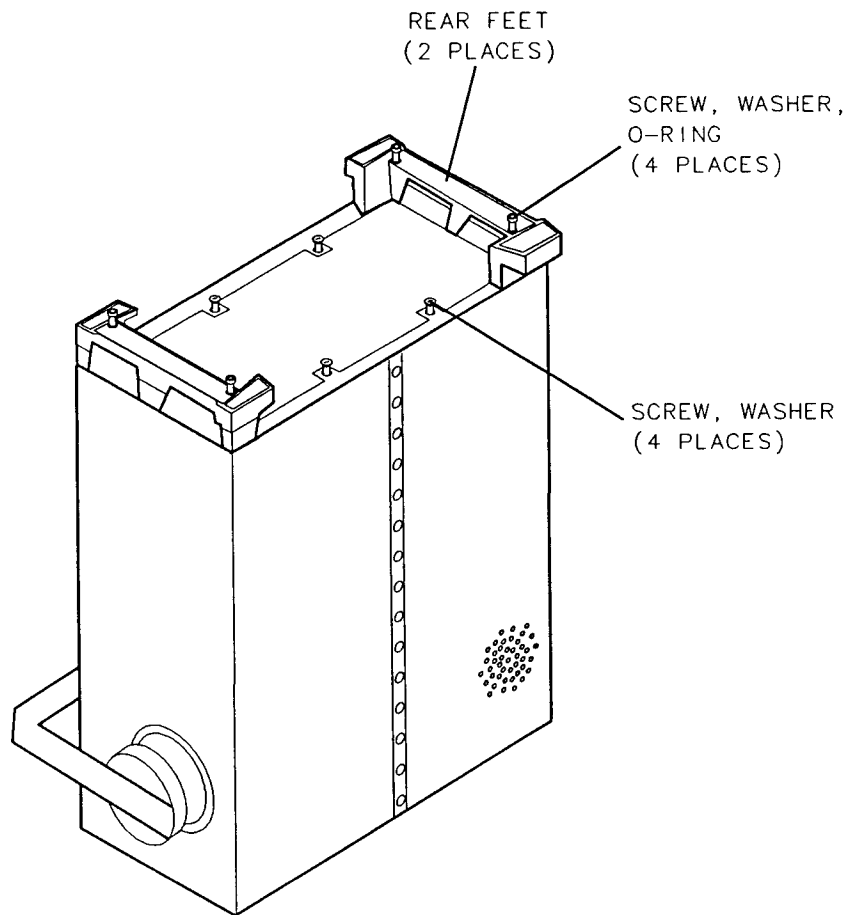

Figure 1. Removing the Instrument Cover
4. Remove the four screws and washers attaching the instrument cover to the rear frame. See Figure 1.